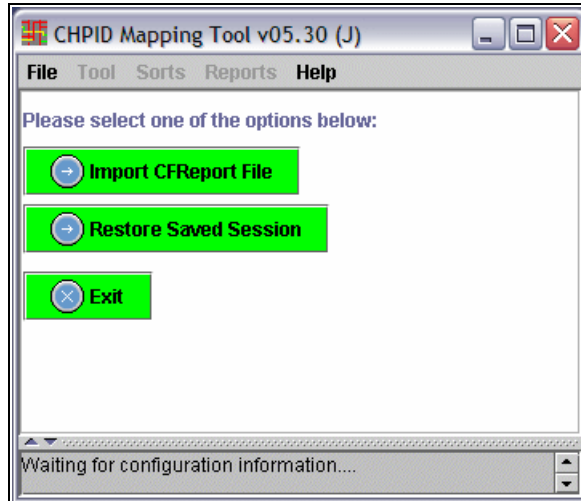

Figure 5-29 CMT - Import CFReport Order file
2. Import the CFReport order file into the CHPID Mapping Tool by clicking **File** → **Import CFReport Order file** (Figure 5-29).